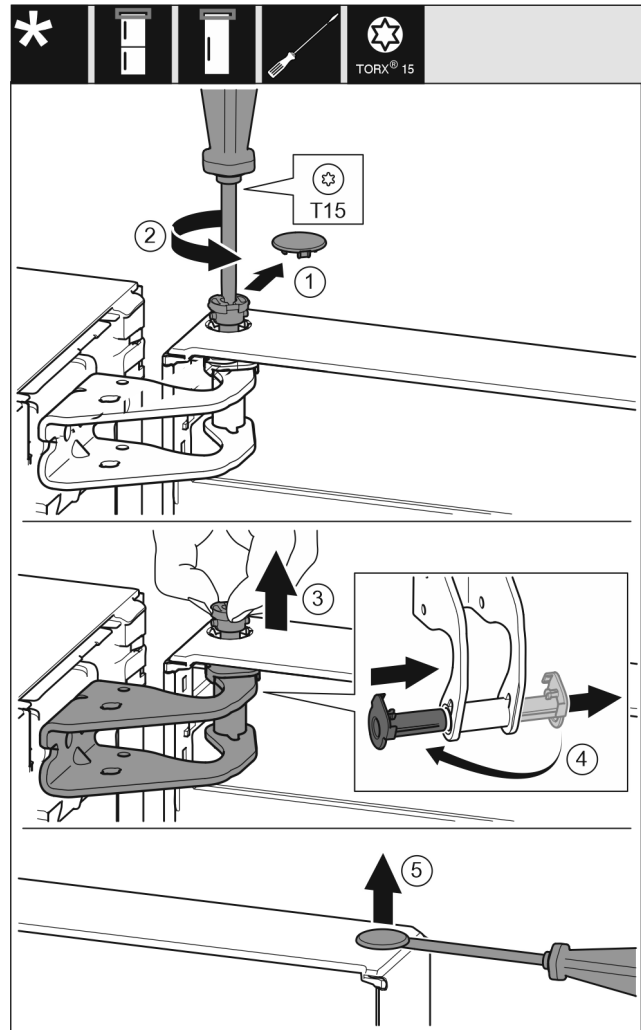

Fig. 6
- ▶ Carefully remove the protective cover. Fig. 6 (1)
- ▶ Loosen the bolts slightly with a T15 screwdriver. Fig. 6 (2)
- ▶ Hold the door and remove the bolts with your fingers. Fig. 6 (3)
- ▶ Pull the bearing bush out of the guide. Insert from the other side and latch into place. Fig. 6 (4)
- ▶ Carefully lift the plugs out of the door bearing bush with a slotted screwdriver and remove them. Fig. 6 (5)